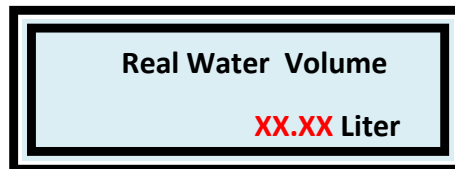

Fig.8 Volume calibration
1.1.6 Select CAL V by **Press** " MODE " button Then " CAL V " button. Display will show as Fig.8